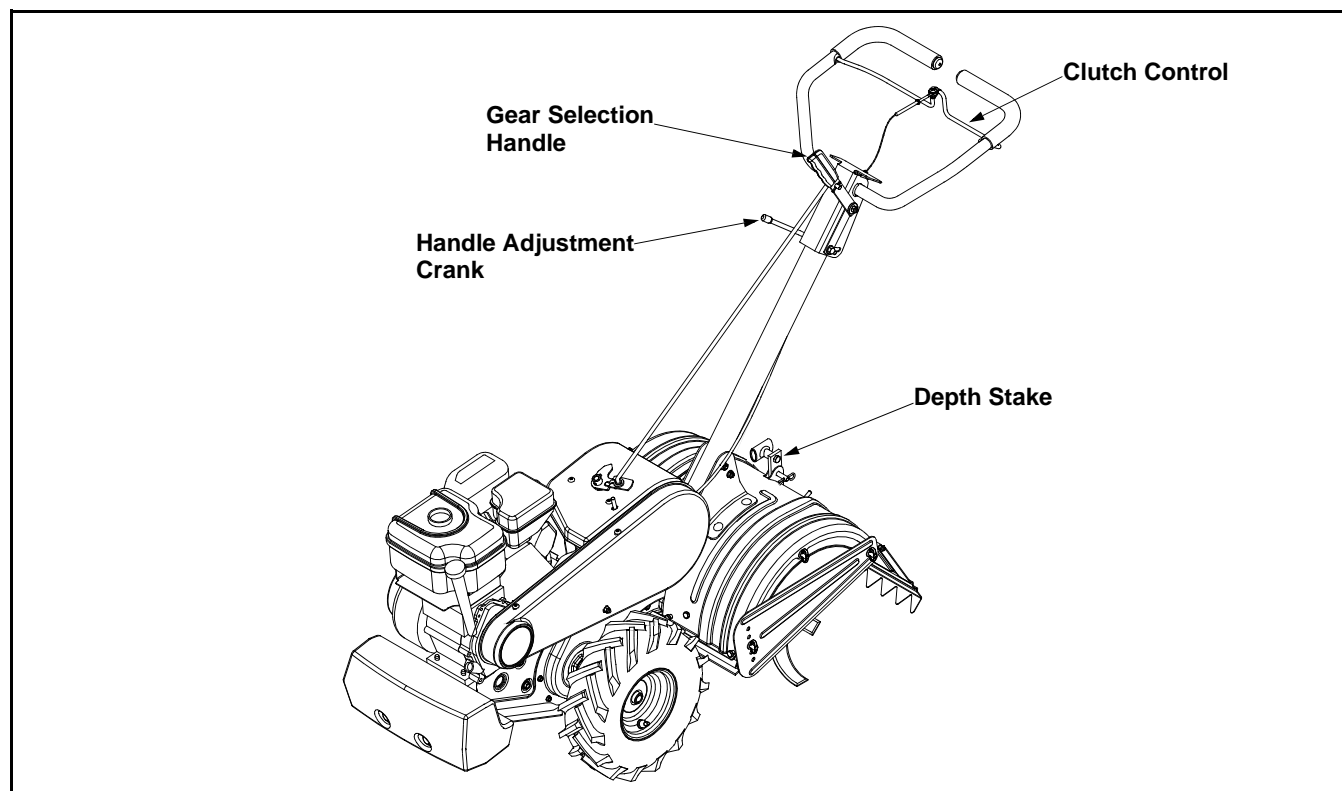

Figure 6
- Insert the longer end of the control rod through the hole in the gear selector handle and secure with hairpin clip. See Figure 6.
The gear selection handle is located in the center of the handle on the tiller. It is used to select NEUTRAL, REVERSE, or one of the FORWARD modes. Pull or push the handle so that the indicator on top of shift cover points to the operating mode desired. See Figure 6.